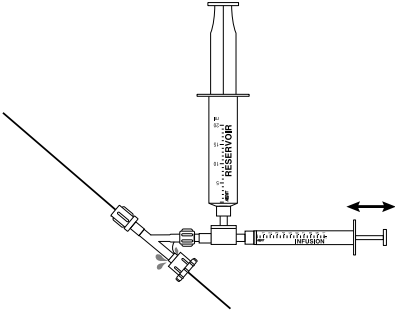

Figure 6
7. The 1 ml infusion syringe should be activated so heparinized saline from the 20 ml reservoir syringe comes through the back end cap of the hemostasis valve (Figure 6). When all the air has been displaced, the back end cap should be tightened onto the proximal end of the occluding wire,